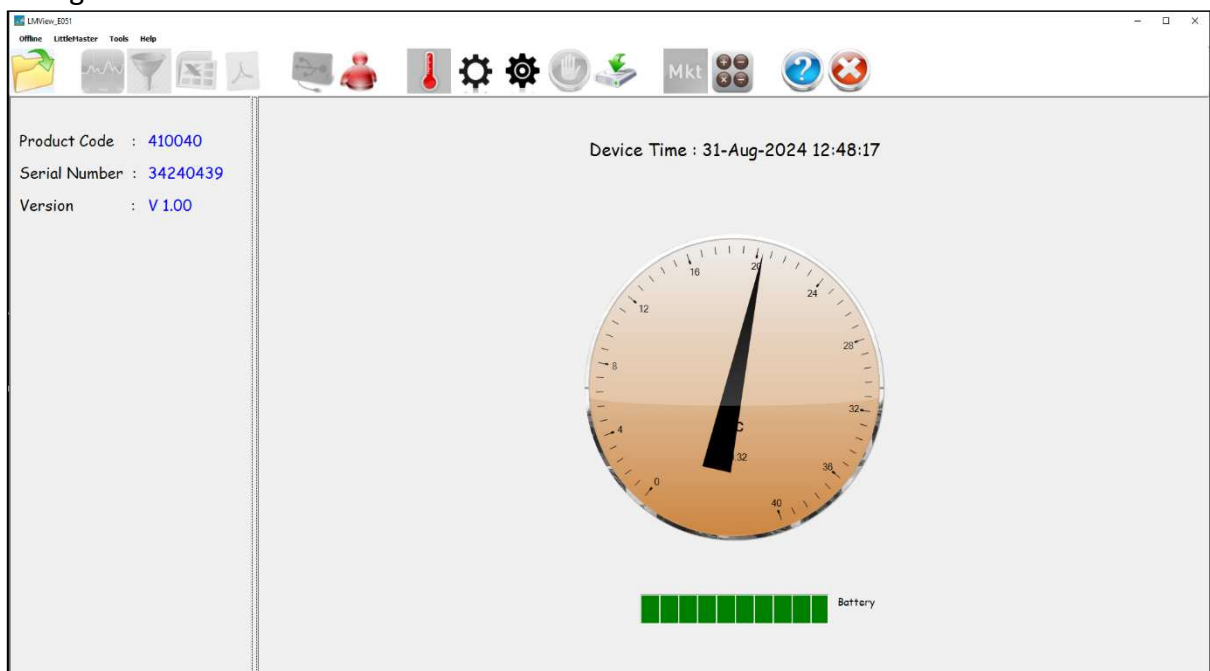

Figure 12 Current Temperature reading of the LM^{Pro} T Data Logger
- Click on USB  icon to connect the device with the LMViewE051. The current temperature reading, Battery level and UTC time of the device will be seen as shown in figure 12.